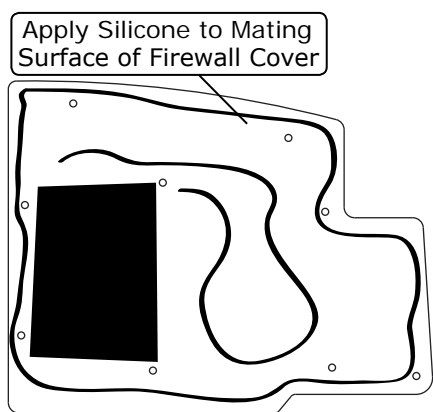

Figure 4
6. Apply silicone to the mating surface of the firewall cover (See Figure 4, below).